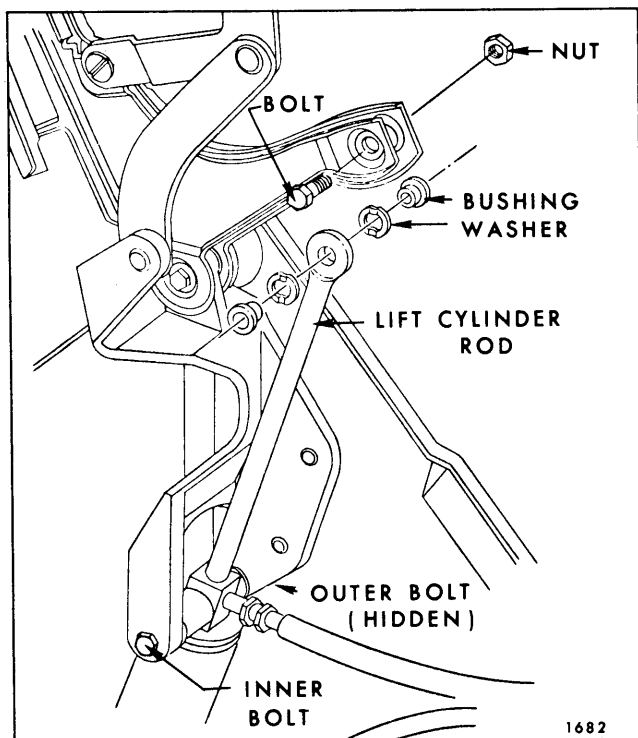

Fig. 13-66—"B and C" Body Hydraulic Lift Cylinder Attachment
7. Remove inner and outer bolt securing cylinder to male hinge (Fig. 13-66).